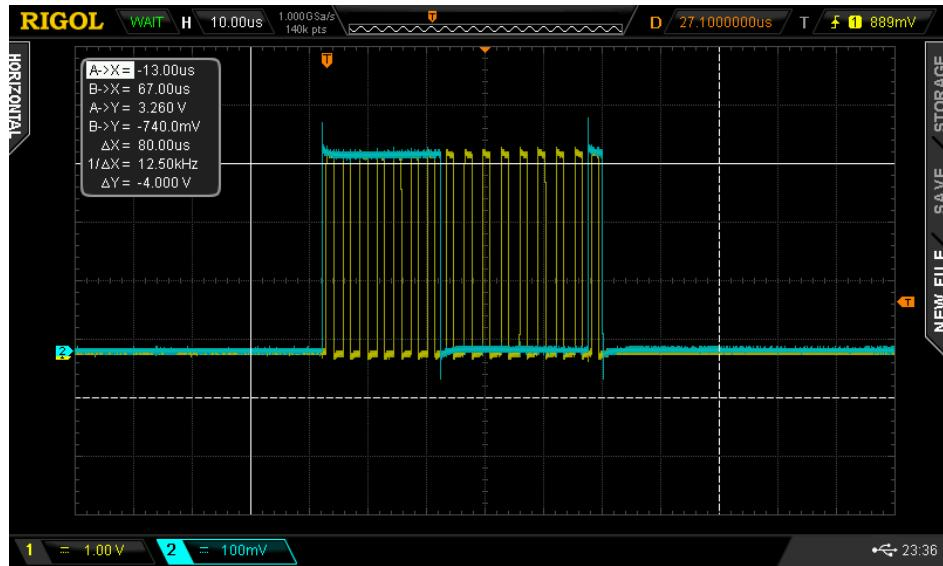

Figure 14: A photo of the uC clock (yellow) and data (blue) pulses on an oscilloscope.
- Should see something like the SI line on the RFSA timing diagram 12. A picture of the oscilloscope trace is in figure 14.